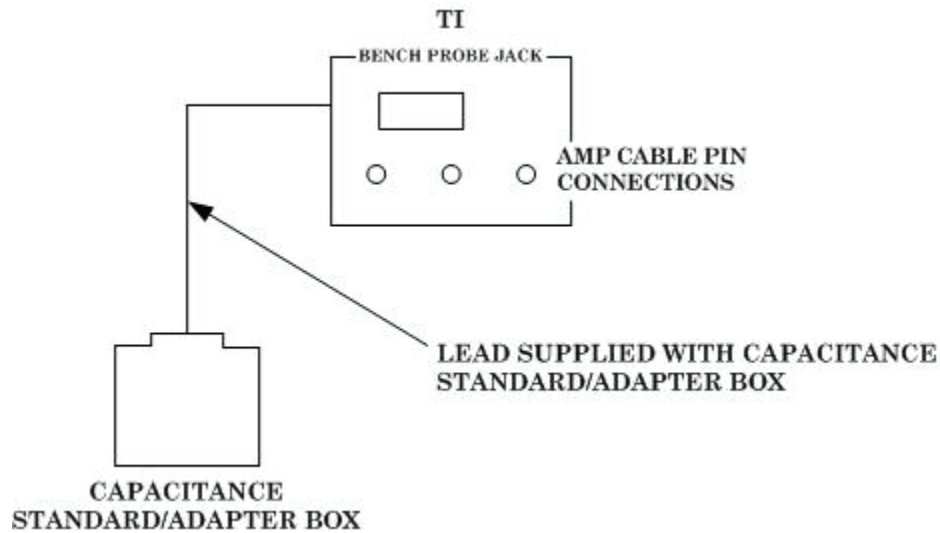

Figure 5. Monitoring capacitance (PF) equipment setup.
(1) Connect equipment with capacitor standard/adapter box as shown in fig. 5.